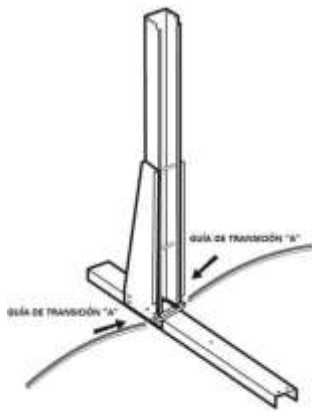

fig. 12
The following step would be to insert the transitional guide "B", that corresponds to the swimming pool model you have acquired (see the transitional guide table) at both sides of the first module (take into account that the oval model 550x366 has NO transitional guides "B"). This transitional guide has to be situated inside the guide rail connector (6), fig. 12.